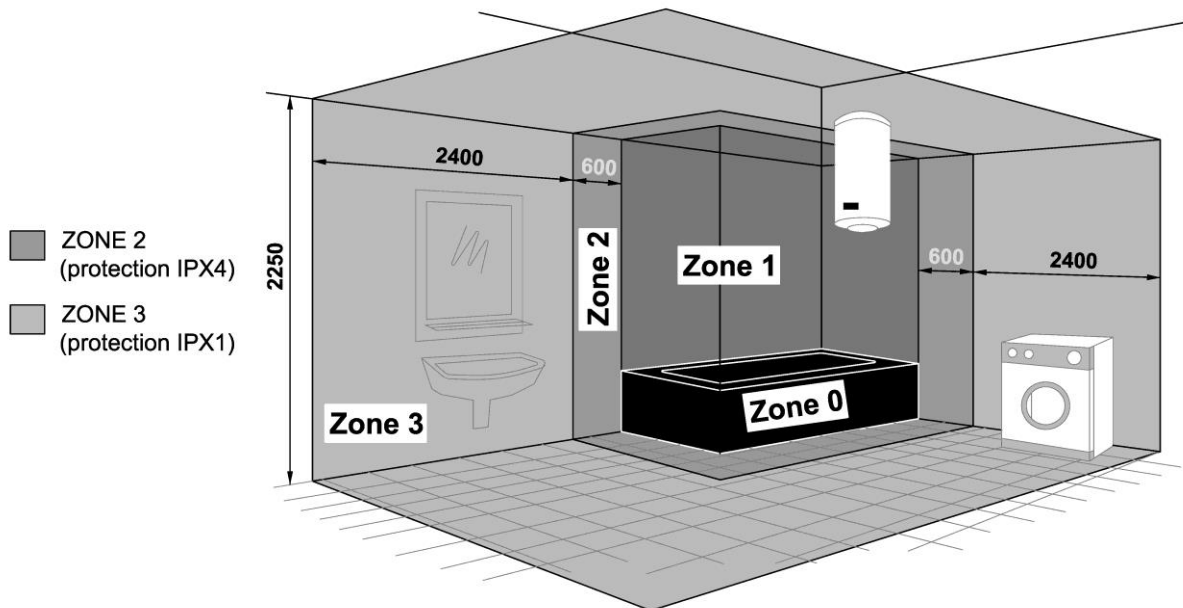

Fig. 1: Bathroom zone classification
- For bathroom installations, the Class I controller should be located in Zone 3 (see Fig. 1) so that the control unit is out of reach of people using the shower or bathtub.